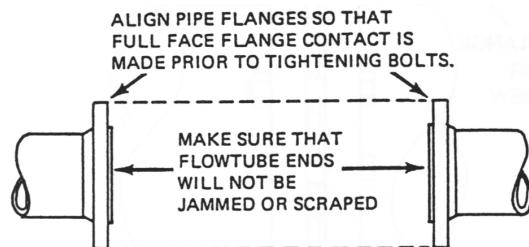
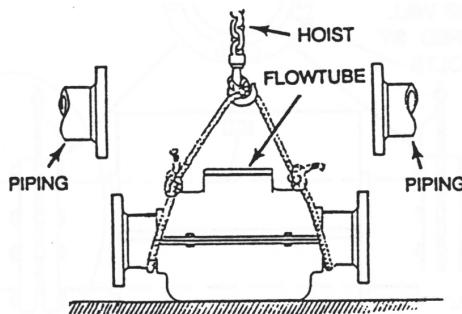

Figure 12. Piping Alignment for Flanged End Flowtube
Figure 13. Hoisting Flowtube into Place
1. Before installing flowtube, install and adequately support the piping. Adjust piping and flanges so that flanges will be aligned and parallel with flowtube flanges when flowtube is installed. Flanges must not be forced into alignment during installation of flowtube. See Figure 12 for correct alignment of piping. See Figure 13 for correct use of hoist in installing flowtube. Also allow for thermal expansion of piping during operation, as required.
- a. Hoist flowtube into place (see Figure 13).